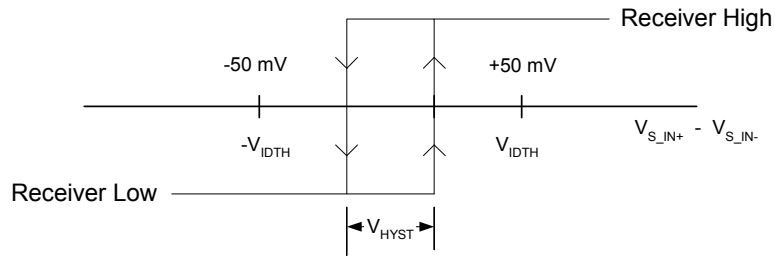

Figure 23. Input Differential Hysteresis
1. Receiver is at high level when $V_{S_INP} - V_{S_INN}$ is greater than $V_{IDTH}(\min)$ and is at low level when $V_{S_INP} - V_{S_INN}$ is less than $-V_{IDTH}(\min)$. A minimum hysteresis of V_{HYST} is present between $-V_{IDTH}$ and $+V_{IDTH}$ as shown in Figure 23.